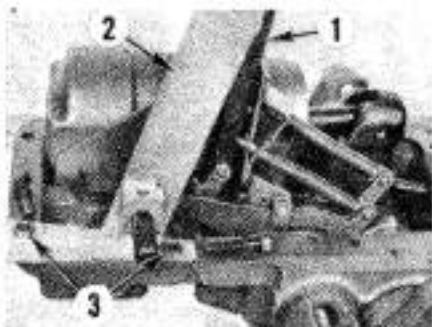

Fig. 219—The special gage tool (MFN 1080-D) shown at (2) should be installed using two Nuday No. 6088 bushings (3) and bolts. Vertical lever is shown at (1).
**220. DRAFT CONTROL LINKAGE.** To adjust draft control linkage, install special gage tool (MFN 1080-D) onto lift cover using special bushings (Nuday No. 6088) as shown in Fig. 219. Be sure vertical lever (1) is to rear of setting rod on gage tool, then slide Nuday No. 6089 bushing (B—Fig. 222) over the setting rod.